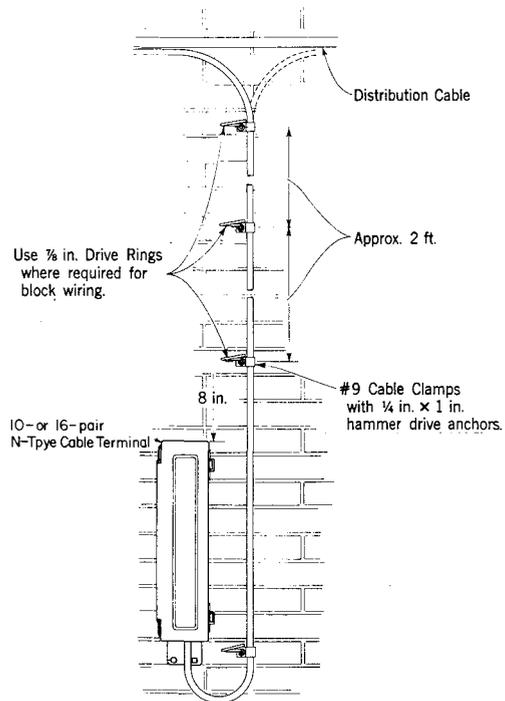

Fig. 31—Vertical Mounted Terminal Below a Horizontal Cable Run
5.05 Figures 31 and 32 show *terminals mounted below a horizontal cable run* with stub cable attached to building wall.